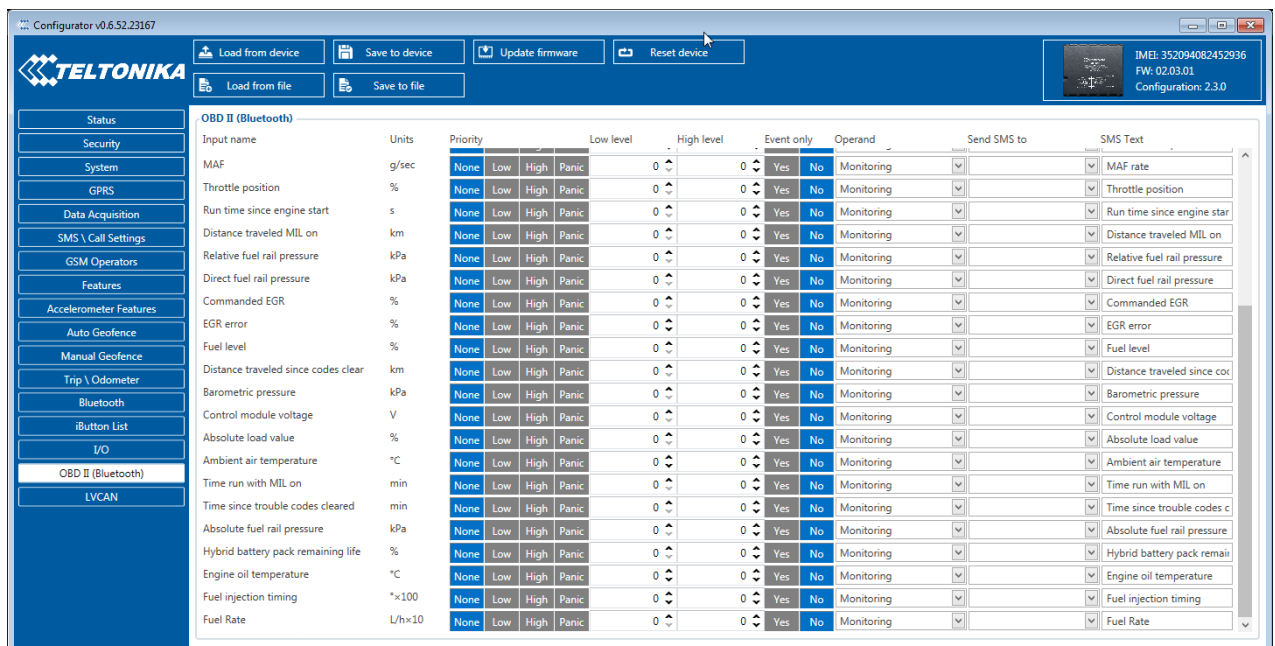

Figure 47 OBD II Bluetooth settings.
- Go to “OBD II (Bluetooth)” in left menu and select priority and others parameters visible at Figure 47.